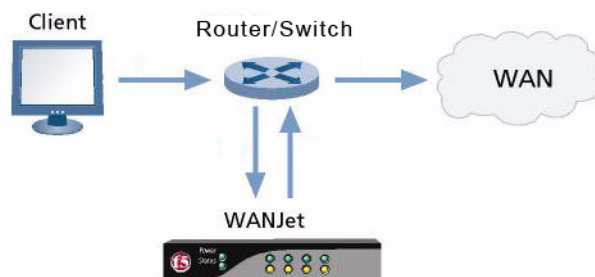

Figure 8.2 One-arm deployment
2. Connect the WAN port of the WANJet appliance to the WAN router (or LAN switch) as shown in Figure 8.2.